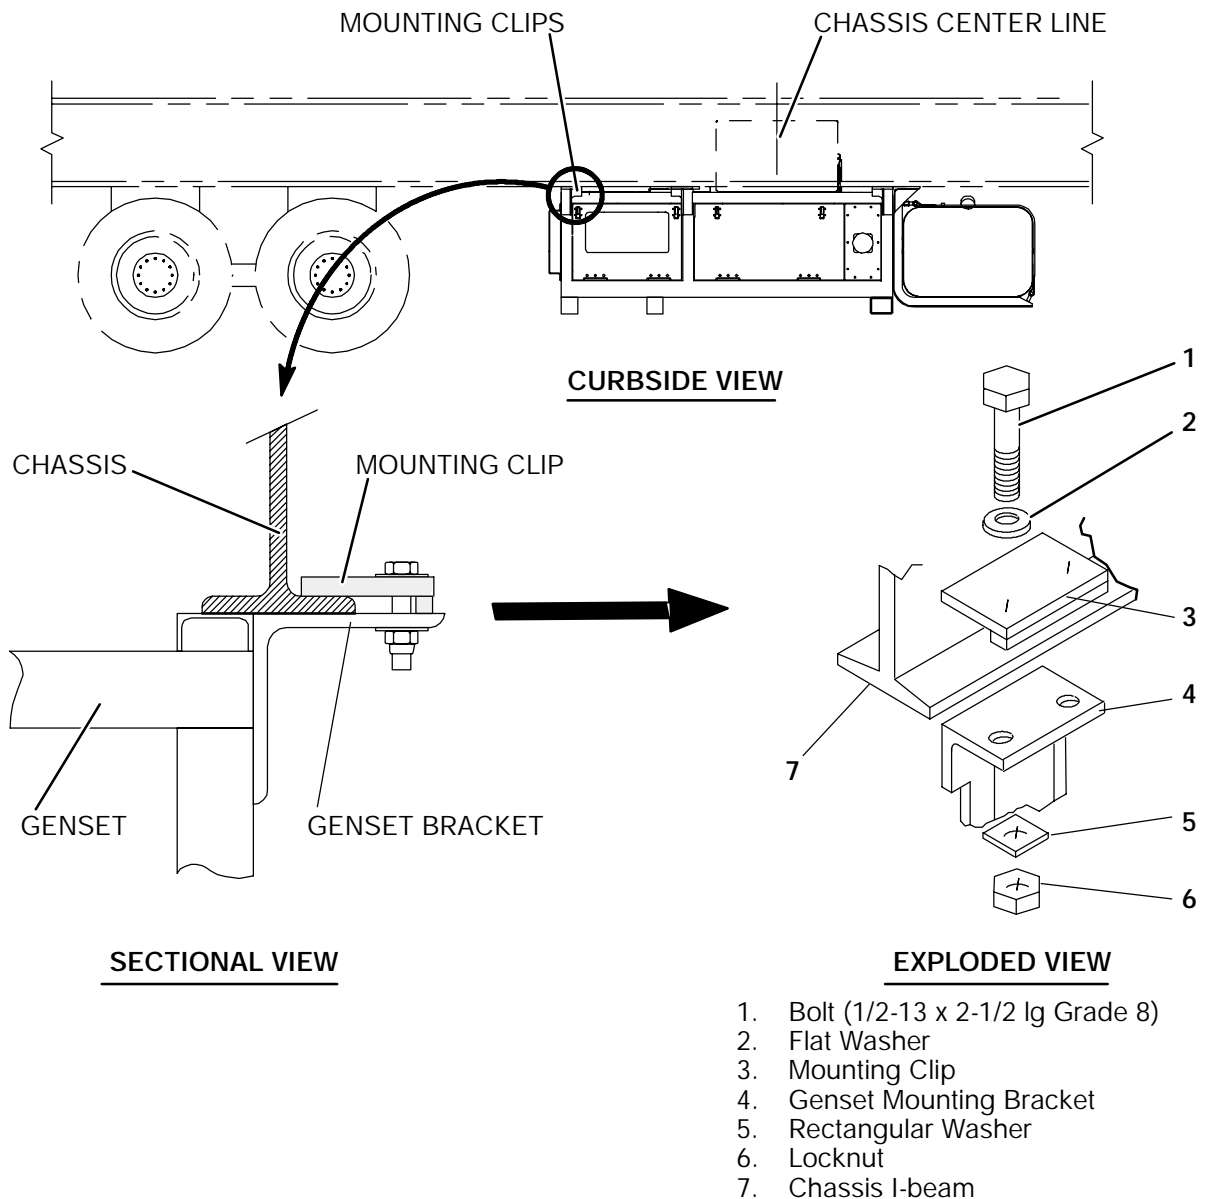

Figure 2-1. Generator Set Mounting
2. Follow Figure 2-1 for installation of genset. Upon completion, remove safety chain before removing forks of fork lift truck from unit.
3. With fork lift in position and safety chain attached remove hardware (see Figure 2-1) and then remove genset.